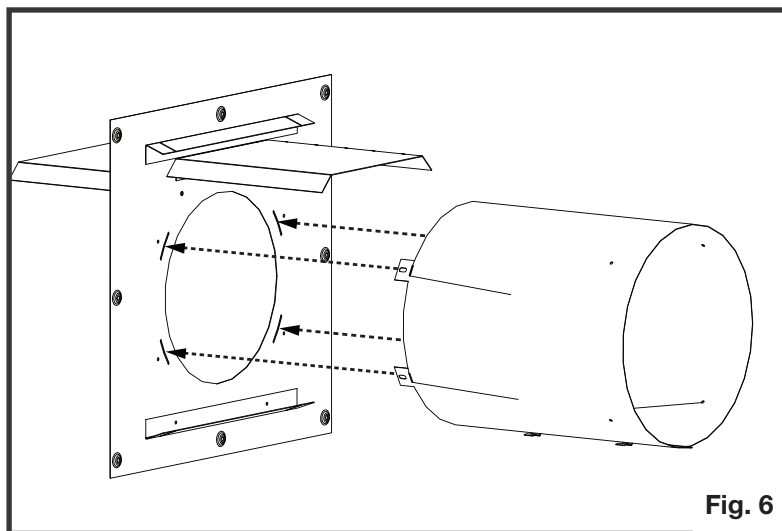

Fig. 6
3. Insert the vent sleeve tabs into the firestop spacer slots then bend the tabs over to secure to the firestop spacer along with 4 supplied fasteners (**Figure 6**).